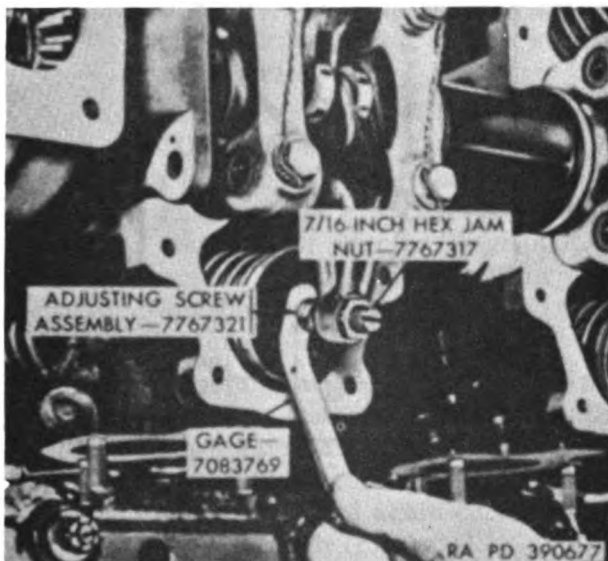

Figure 176. Checking intake valve clearance.
- (2) *Intake valve clearance* (fig. 176).
- (a) Rotate camshaft to bring base circle, opposite lobe on camshaft, under No. 1 cylinder intake valve rocker roller. Insert 0.1000-inch leaf of gage 7083769 (fig. 176) between swivel pad on adjusting screw assembly and intake valve stem.